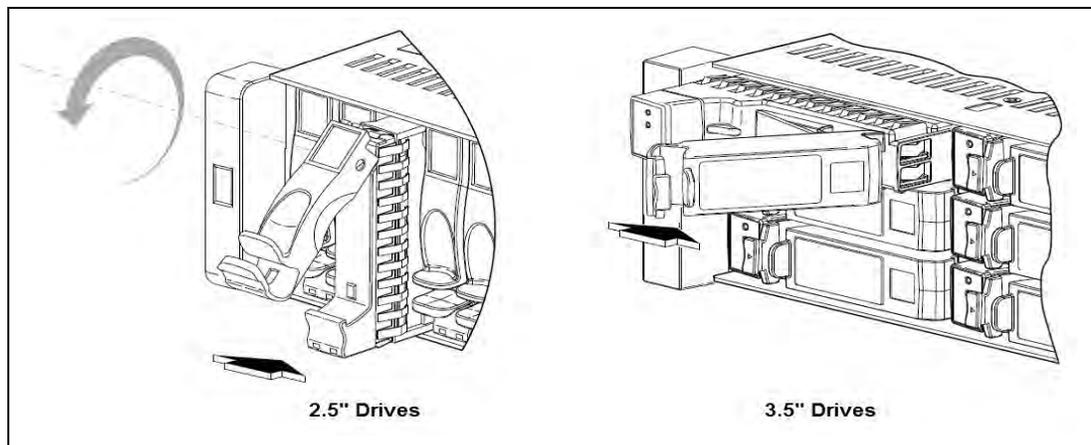

Figure 5.52 - Installing a Drive Module
2.	Perform one of the following steps, according to your product's drive type (see Figure 5.52): <ul style="list-style-type: none"> ■ 2.5" Drives—With the LEDs oriented to the bottom, slide the drive module into the drive slot as far as it will go. ■ 3.5" Drives — with the LEDs oriented to the left, slide the drive module into the drive slot as far as it will go (see Figure 5.52).